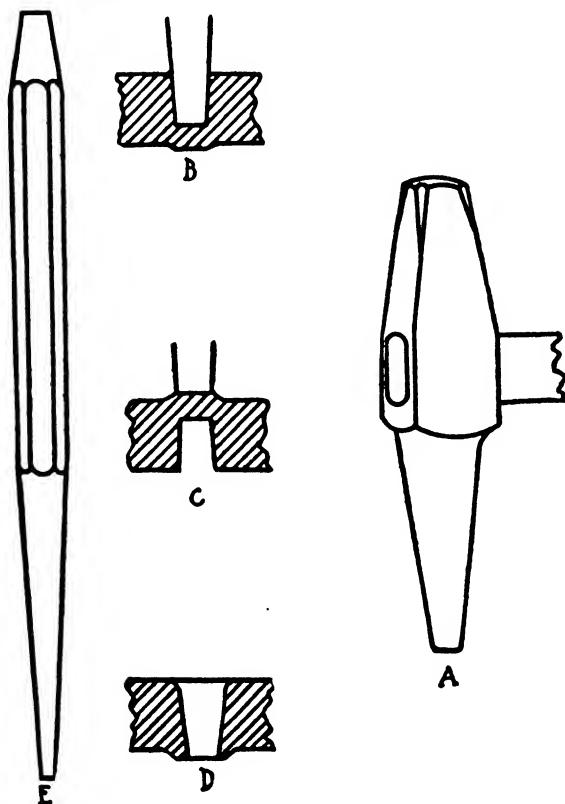

FIG. 27
2. Place the punch *A*, Fig. 27, on the stock as near the spot where the hole is to be made as possible. If the punch is not exactly in position, lean it slightly and twist it until the end of it is exactly where the hole is to be made.
3. Hold the punch in a vertical position and deliver a heavy blow. Then quickly drive the punch about two-thirds of the way thru or until it drives with difficulty. *B*, Fig. 27.
4. Remove the punch and turn the stock over quickly. Place the punch on the punch print, *C*, Fig. 27, and drive it thru.
5. Place the stock over the hardy-hole or pritchel hole and drive the punch thru from each side alternately until the hole is the desired size. *D*, Fig. 27.